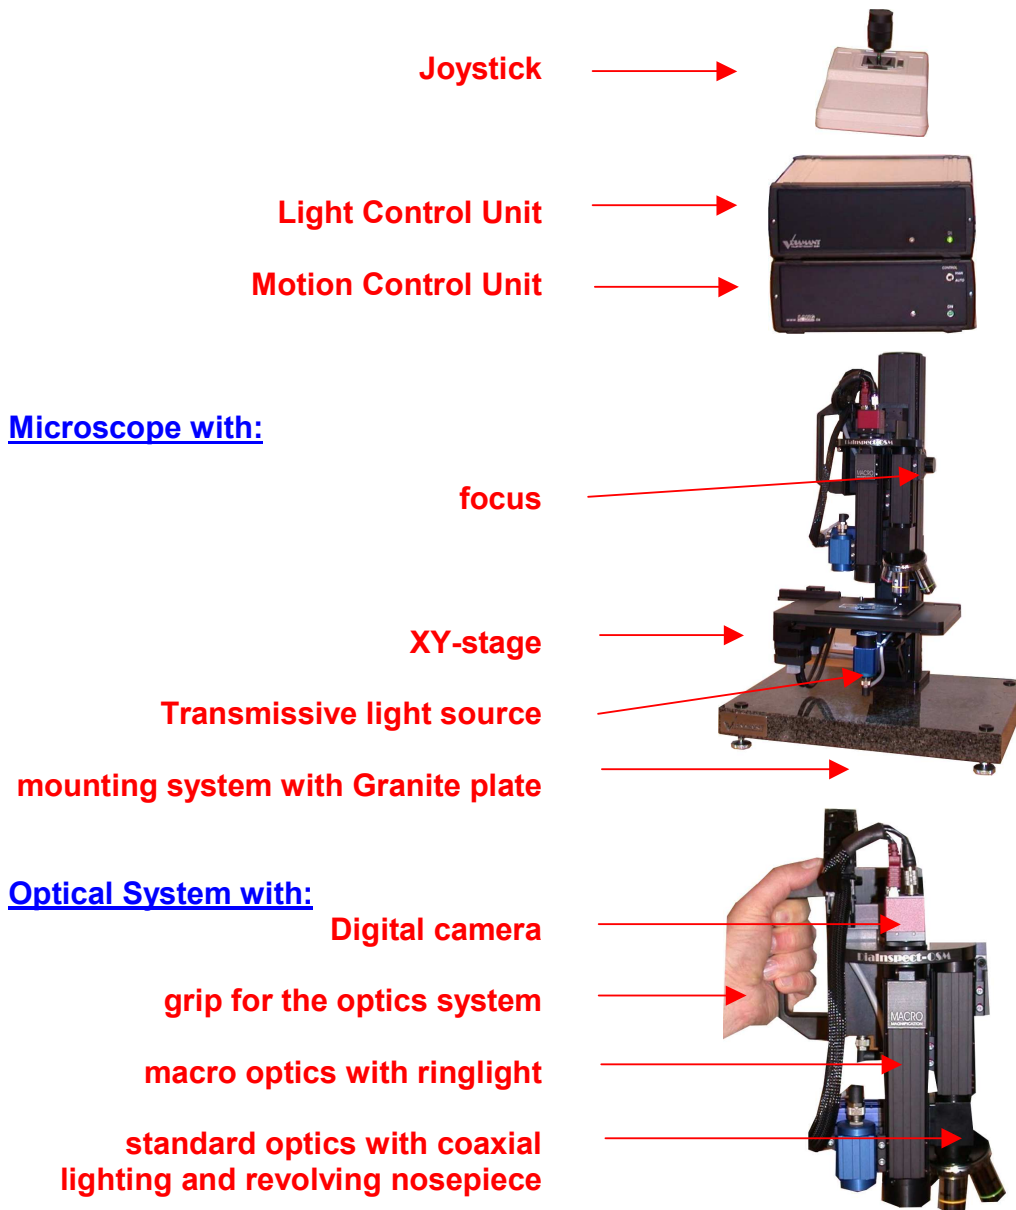

Fig. 1: Main components
- When carrying the Optic System, hold it at his grip (Fig 1).